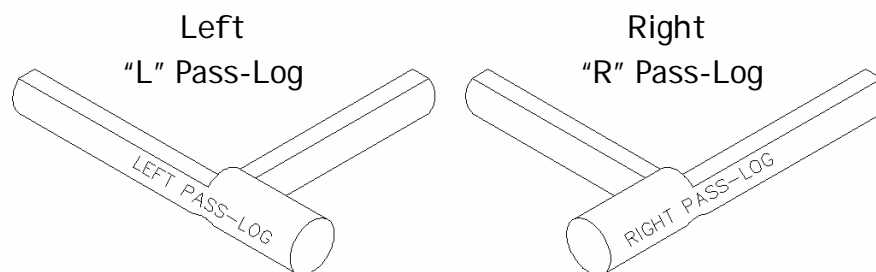

Figure 1
2. You then need to decide an appropriate Starter Code. The corner will have either a "Right Pass-Log" or a "Left Pass-Log" corner for the first course (see Figure 1). The opposite corner on each wall plane will use the opposite pass-log for its starting half log corner in that course.